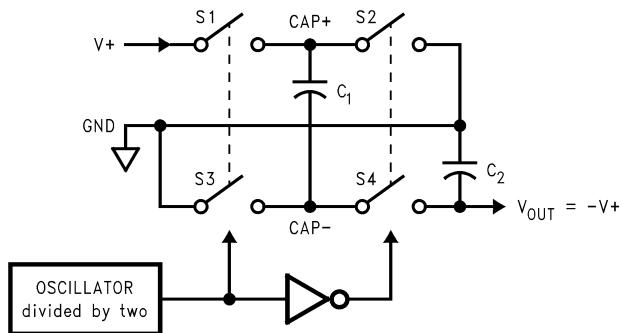

Figure 10. Voltage Inverting Principle
The LM2664 contains four large CMOS switches which are switched in a sequence to invert the input supply voltage. Energy transfer and storage are provided by external capacitors. Figure 10 illustrates the voltage conversion scheme. When S_1 and S_3 are closed, C_1 charges to the supply voltage $V+$. During this time interval, switches S_2 and S_4 are open. In the second time interval, S_1 and S_3 are open; at the same time, S_2 and S_4 are closed, C_1 is charging C_2 . After a number of cycles, the voltage across C_2 will be pumped to $V+$. Since the anode of C_2 is connected to ground, the output at the cathode of C_2 equals $-(V+)$ when there is no load current. The output voltage drop when a load is added is determined by the parasitic resistance ($R_{ds(on)}$) of the MOSFET switches and the ESR of the capacitors) and the charge transfer loss between capacitors. Details will be discussed in the following application information section.
- R_{SW} is the sum of the ON resistance of the internal MOSFET switches shown in Figure 10. (1)